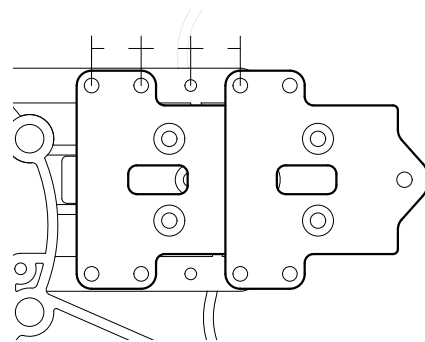
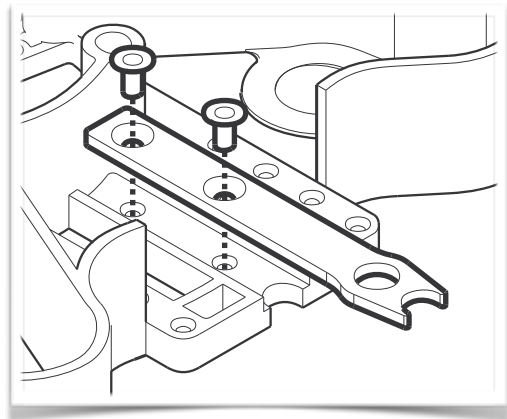

figure 1
figure 2
Once the back plate is removed the Shift unit mounting positions will be accessible, you can move the paddle units on the platform bar by removing the (4) T8 screws and moving the paddle to a new position. (see fig 1) Each movement is 10mm in distance for a total of 30mm\*\* change that can be made on each side of the wheel. Only tighten the torque screws until snug and there is no play in the mounting plate, too much torque can result in stripping the plastic mount. Once done with one paddle do the same for the paddle on the other side. When moving the paddles to their 2 outermost locations (20/30mm) we recommend installing the included Paddle Brace plates (figure 2) to limit the amount of flex due to leverage on the paddle mounts.